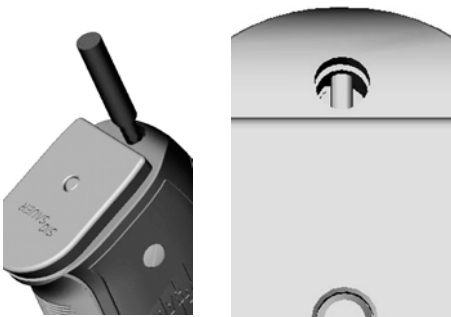

Fig. 5, secured (left), locked (right)
#### Locking: (see Fig. 5, on page 8)
3. Remove key leaving end of lock below the grip surface (see Fig. 5, on page 8, right).